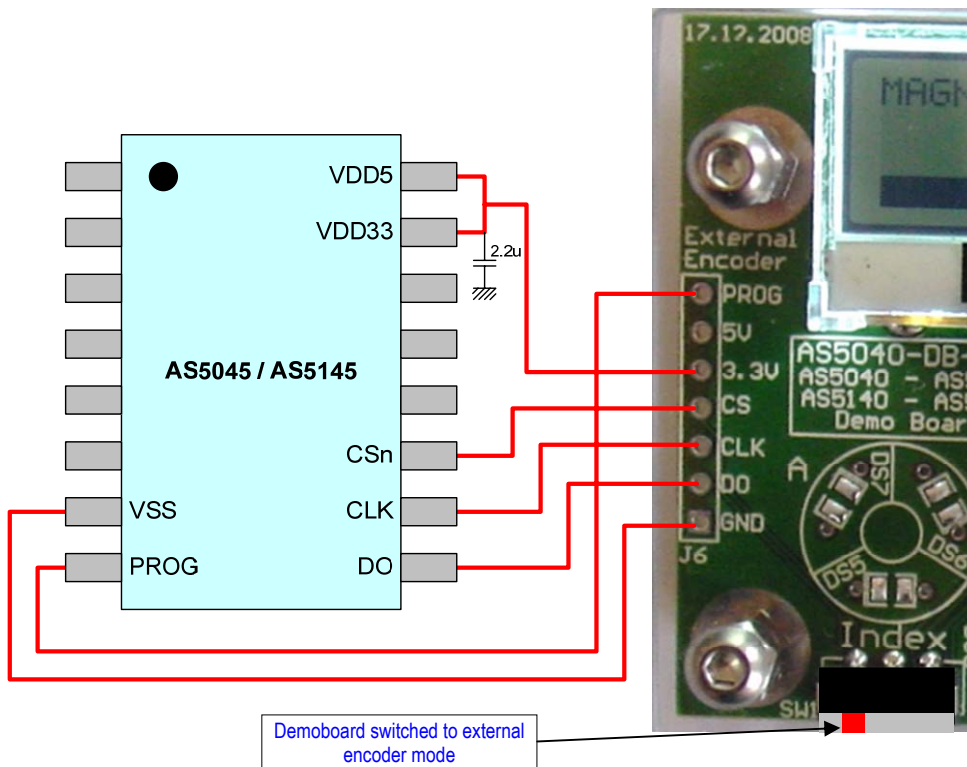

Figure 3: external AS5045/AS5145 connection to the demoboard
- In standalone mode, regardless to the demoboard type (AS5045 or AS5145), AS5045 and AS5145 can be attached to J6 and evaluated. See figure 3.
Figure 3 shows the main window of the GUI. On the top left corner, board information's as firmware (FW) version and demoboard name declaration can be found.